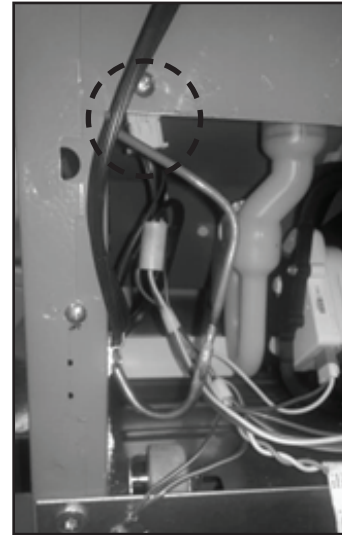

FIGURE 3
5. Disconnect the harness from the panel mount connector and discard harness. See *Figure 3*.